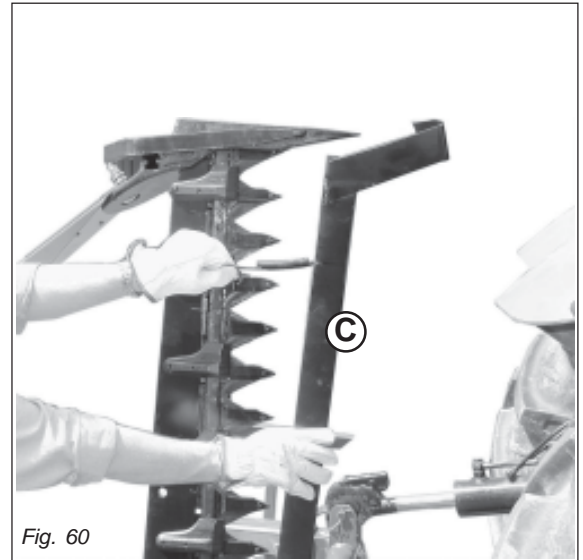

Fig. 60
- Fit the guards over the cutters and outer skid (C, Fig. 60)